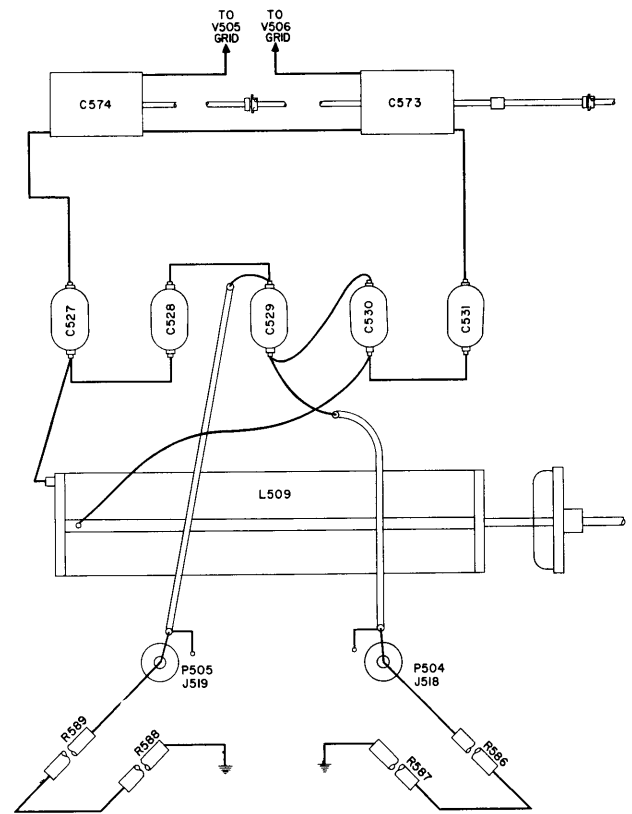

Figure 3-15. Wiring Diagram — RF Unit T-225A/-FRT-5, Conversion of PA Input Circuit for Single Side-band Excitation
b. **POWER AMPLIFIER GRID CIRCUIT CONVERSION.** — A wiring diagram for the single side-band conversion is shown in figure 3-15.
(1) Remove the variable vacuum capacitor C526 and lay it aside.
(2) Remove the 25-347 mmf variable air capacitors C533 and C534 and replace them with 9-52 mmf variable air capacitors C573 and C574 from the modification kit. Note that mounting holes are provided for these capacitors. Leave balancing capacitor C535 disconnected.
(3) Remove the three 140-mmf fixed vacuum capacitors, C527, C528 and C529, but save them for replacement.